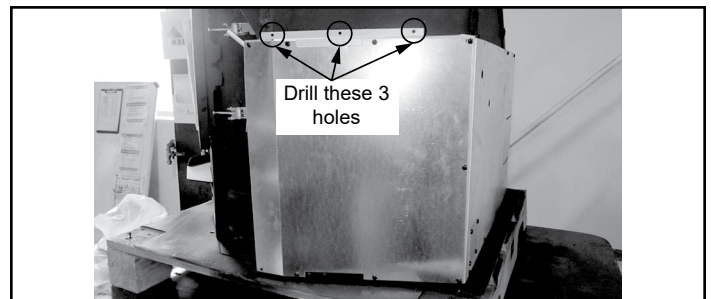

Figure 22.7
10. Using the electric drill with #26 drill bit; drill 3 holes into the hopper. Add three screws to secure shroud assembly to the appliance (**Figure 22.7**).